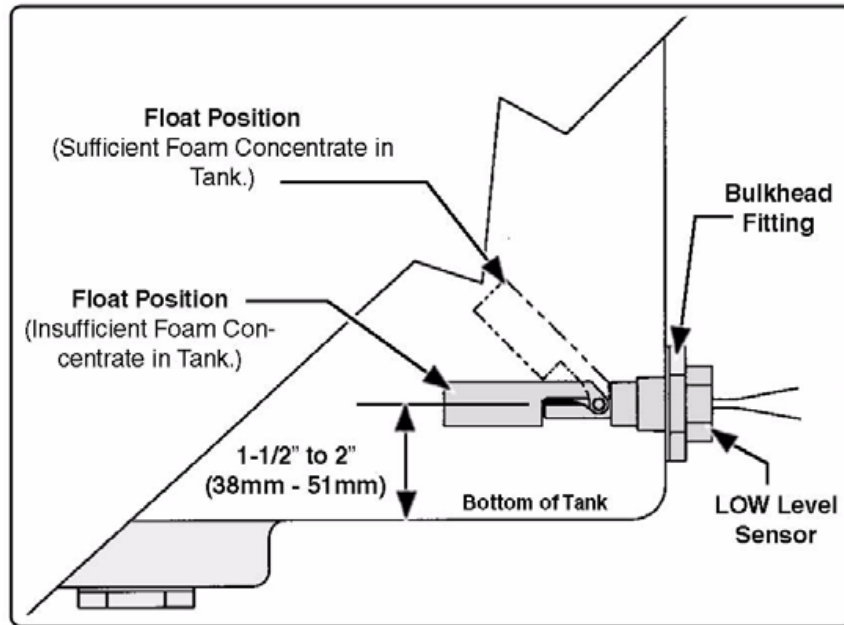

Figure 53: Side Mount Sensor Location Dimensions
1. The sensor has 1/2-in (13 mm) NPT threads. If tank design and construction allows, the side mount sensor is threaded directly into the side of the tank at the proper height (**Figure 53**). Also, the sensor can be mounted on the foam tank using a 1/2-in x 1" (13 x 25 mm) NPT bushing and a bulkhead fitting with 1" (25 mm) FNPT threads.